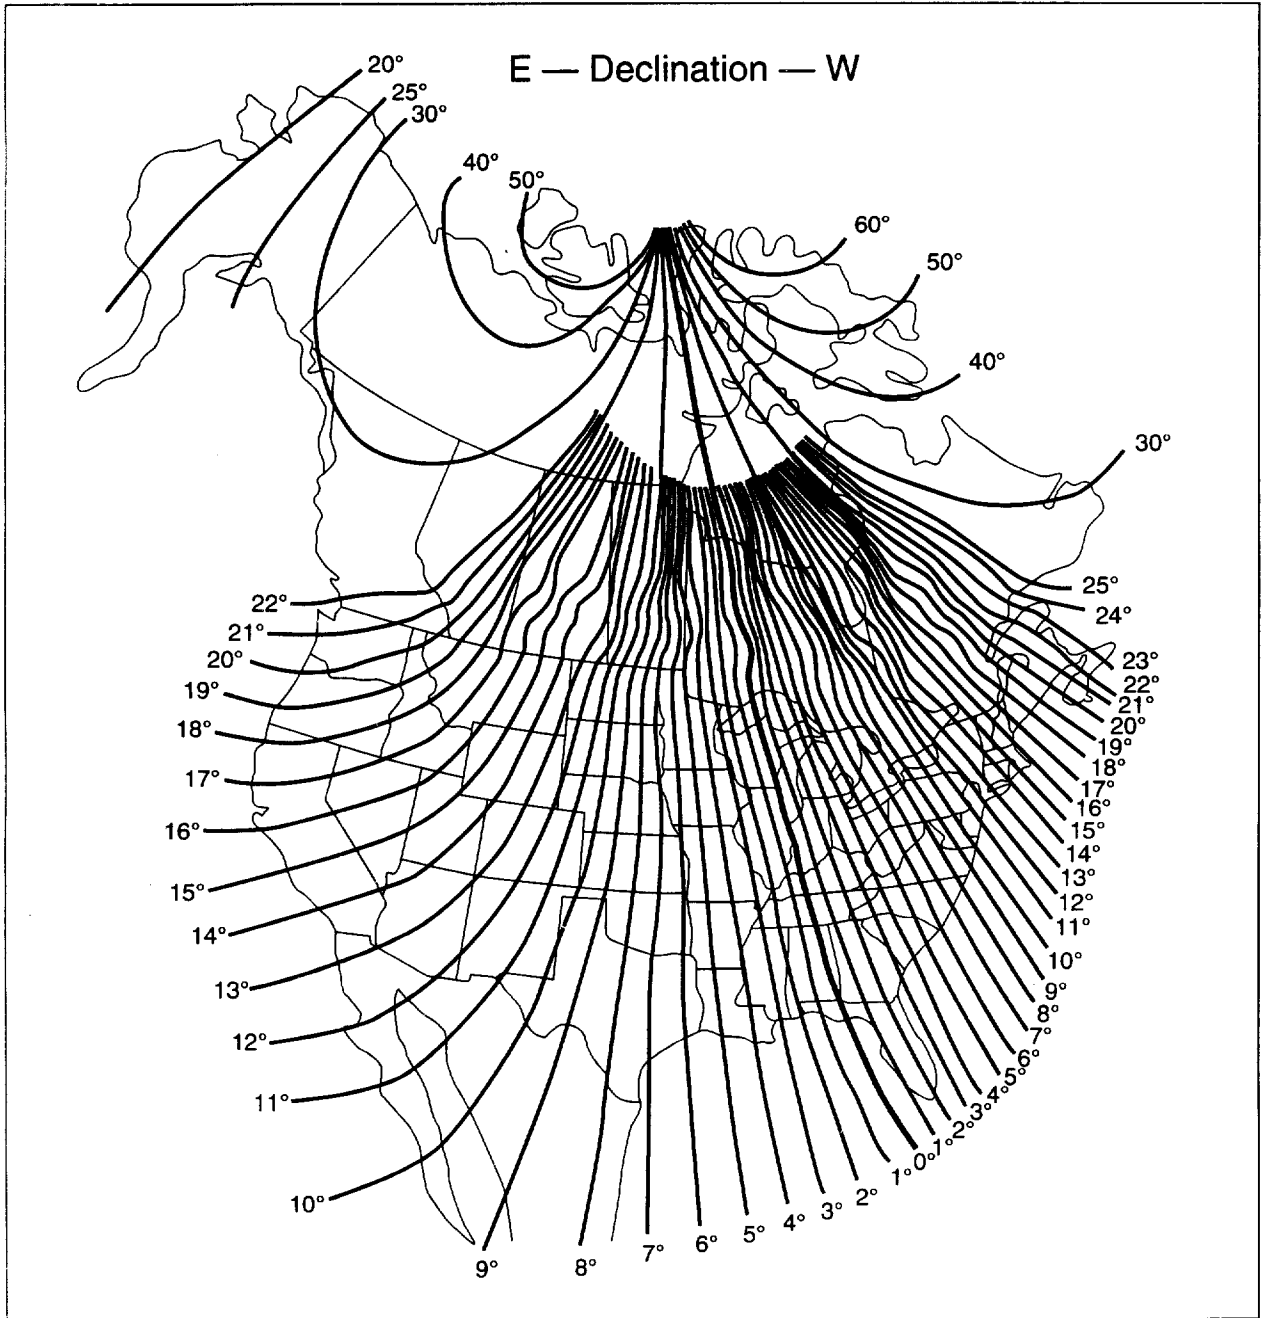

Fig. 4: Magnetic Declination Map.
- Determine the Magnetic Declination in the observing area by utilizing the Magnetic Declination Map (Fig. 4).